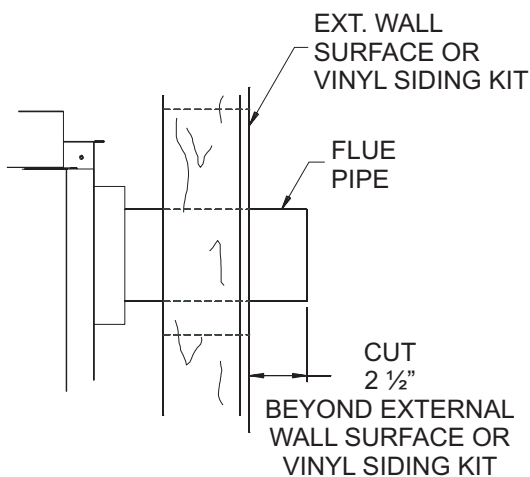
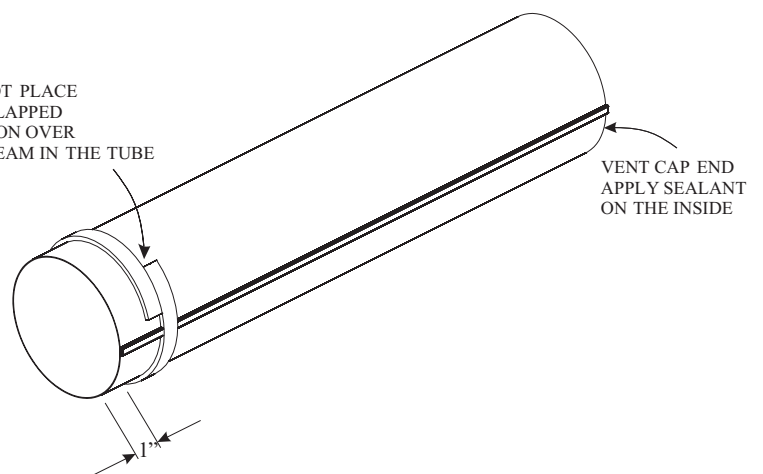

Figure 50
Figure 51
8. Attach the 4" (102 mm) diameter flue outlet tube onto the rigid venting system or directly to fireplace. Ensure the 4" (102 mm) diameter flue outlet tube is placed as far as possible onto the rigid venting system. Mark the 4" (102 mm) diameter flue outlet tube 2 1/2" (64 mm) beyond the vinyl siding kit or wall. See Figure 50. Remove the 4" (102 mm) diameter flue outlet tube from rigid venting system. When installing directly to fireplace, tape gasket needs to be used.
10. From outside: Push the 6 5/8" (168 mm) diameter inlet tube/mounting plate onto end of rigid venting system to correct position. Fasten the outside mounting plate to the vinyl siding kit or wall with (4) 10 x 1 1/2" screws. (Ensure upward slope).
11. From inside: Attach the inlet tube to the collar on the back of the fireplace (or the rigid venting system) using (3) self tapping screws.
12. Seal the 4" (102 mm) diameter flue outlet tube. Follow instructions and diagram (Figure 51).
14. Fasten vent cap end using (3) 10 x 1/2" screws to mounting plate. **Sealing 4" (102 mm) Diameter Flue Outlet Tube**
If the air inlet and flue outlet tubes are to be connected directly to the unit (no rigid venting system is being used), then the gasket provided must be used to seal the 4" (102 mm) flue outlet tube. Peel the paper off the self-adhesive gasket and then wrap it around the end of the tube (if tube was cut, it is recommended to use cut end) as shown in Figure 51. Pull the gasket tight at all times while wrapping it around tube. The gasket ends should align, to form a complete seal. The overlapped section should NOT come in contact with the seam in the tube. Apply high temperature sealant to the opposite end of the tube (on the inside of the tube). The end with the gasket will attach to the back of the unit. Continue with Step 13.